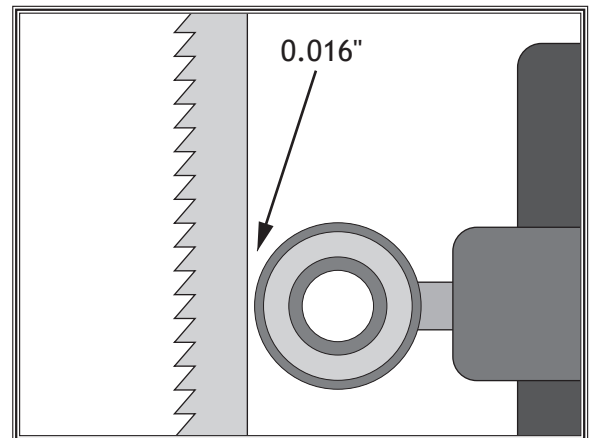

Figure 25. Bearing positioned 0.016" away from back of blade.
3. Position support bearing approximately 0.016" away from the back of the blade, as illustrated in Figure 25. This can be measured with a feeler gauge or a dollar bill.